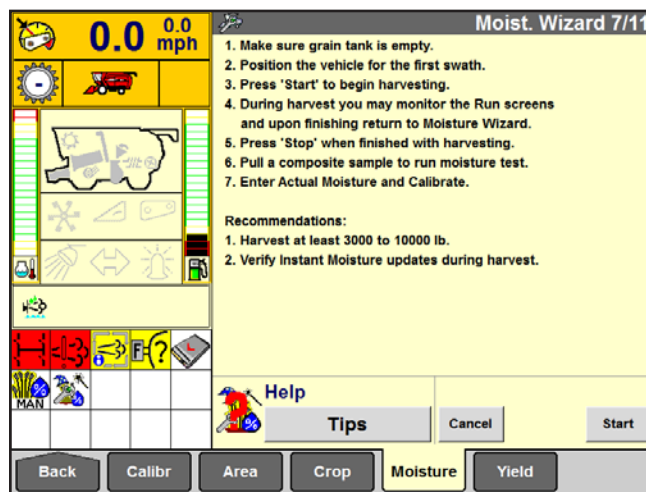

Figure 23.2
- On-screen instructions for harvesting, handling and measuring the necessary calibration loads (see figure 23.2)